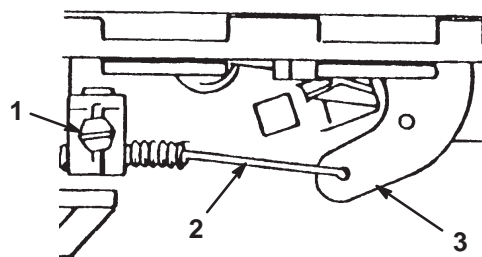

Figure 4
2. Loosen the cable clamp screw and disconnect the throttle cable from the throttle lever (Fig. 4).